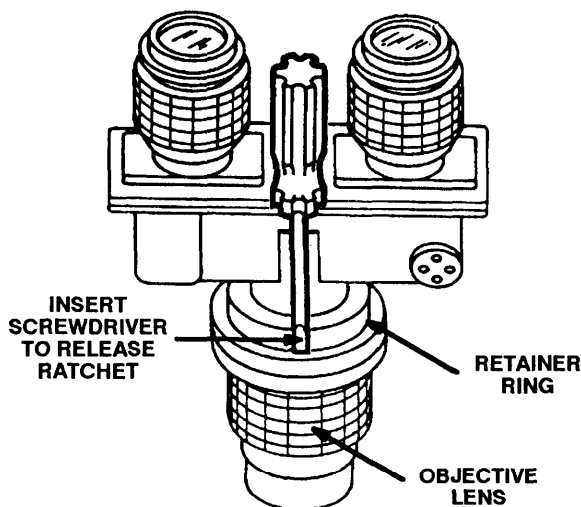

Figure 3-1. Retaining Ring.
- a. Insert small flat blade screwdriver under the rear of the retainer and release the ratchet. See Figure 3-1.